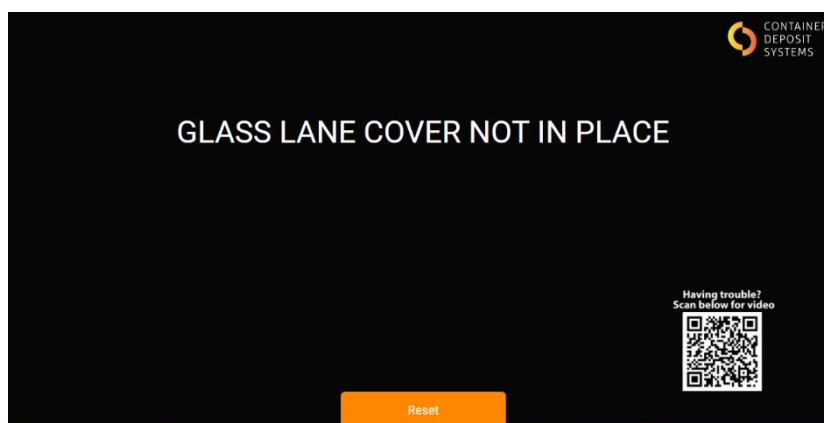

Figure 71. Conveyor Cover Fault
- If the safety switch is activated the screen will appear (mixed lane shown) as in Figure 71.